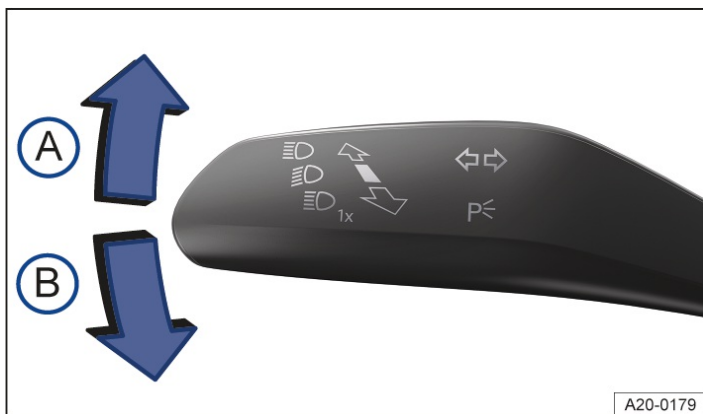

Fig. 1 On the left-hand side of the steering column: turn signal and main beam lever.
- (A) Right turn signal ➡.
- (B) Left turn signal ➡.
2. Move the turn signal and main beam lever from the centre position to the desired position → *Fig. 1*: